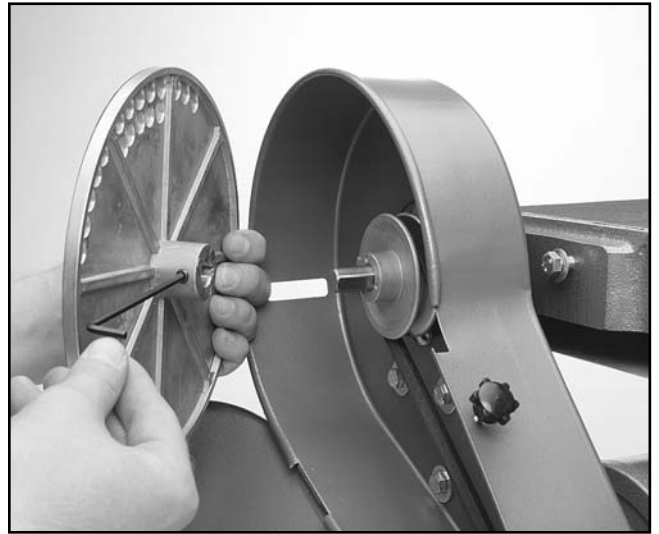

Figure 7.
4. Install the Sanding Disc as shown in **Figure 7**. Make sure the Setscrew is lined up on the flat spot on the drive shaft.
5. At this point, install the back stop, using the Hex Bolt and Washer as shown in **Figure 7**.